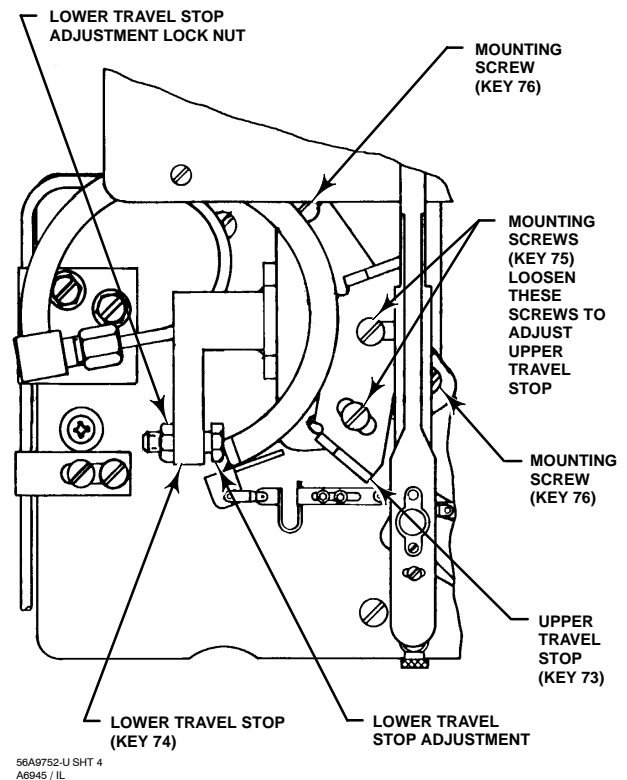

Figure 6-18. Bourdon Tube Controller Travel Stop Adjustment
Refer to figure 6-18 for adjustment locations and figure 7-1 for key number locations.
6. Adjust the lower travel stop adjustment (shown in figure 6-18) until it touches the Bourdon tube.
11. Slide the upper travel stop (key 73) until it touches the Bourdon tube.
12. Tighten the machine screws (key 75).
15. Adjust the proportional band to 400 percent in the desired action and install the proportional band indicator cover (key 36). Tighten the two screws (key 6).